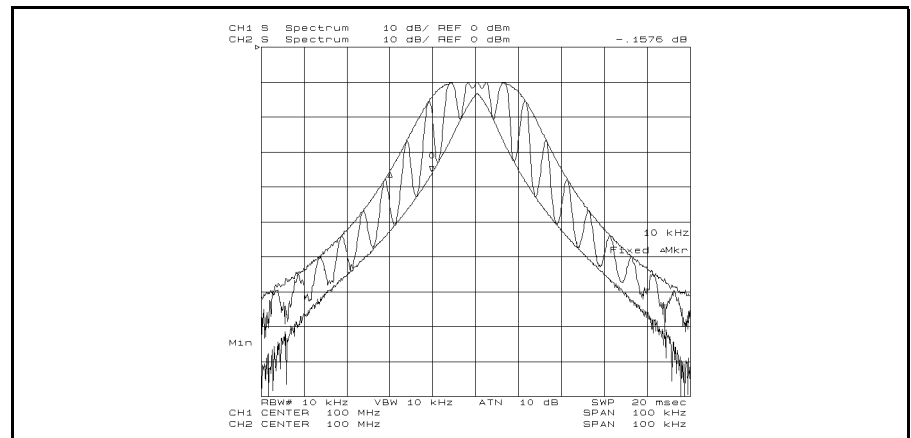

Figure 4-18. Superimposing Spectrum and Envelopes
12. Press **MORE** **SPLIT DISP** **ON** off to on **OFF** . The analyzer superimposes the spectrum on the envelopes as shown in Figure 4-18.